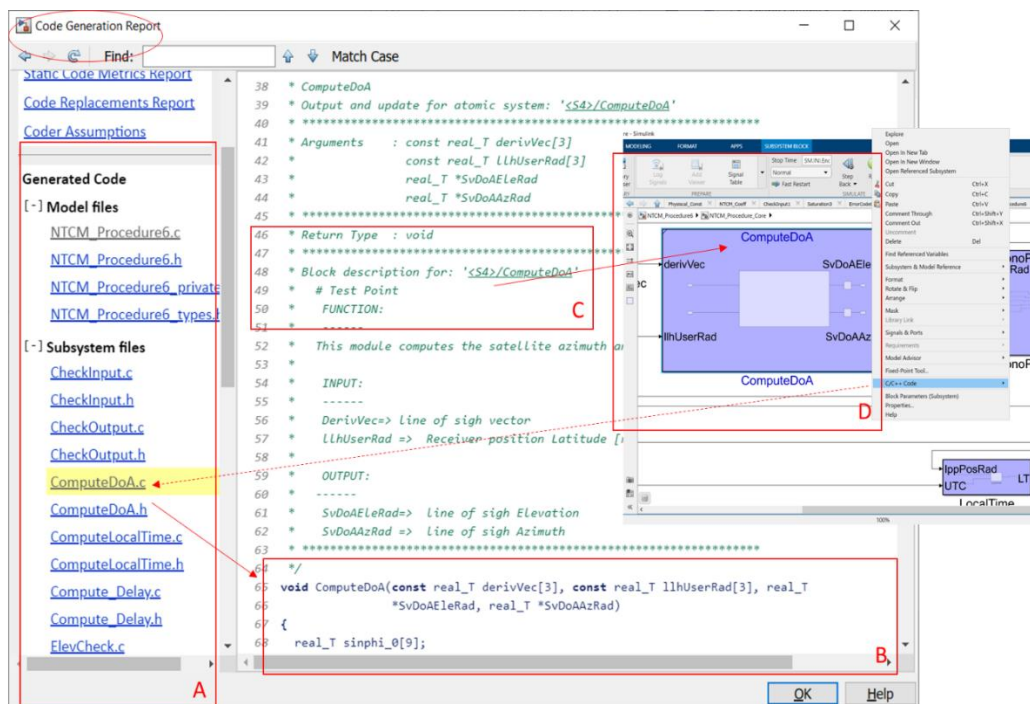

Figure 8 : Code Generation Report
- a) The *code generation report* (see Figure 8) that provides:
- capability to navigate the generated source code by simply clicking on the name of the function (A to B in Figure 8)
- capability to identify the module of the Simulink model that corresponds to the source code function or branch by using the block element hyperlink (C-D in Figure 8)